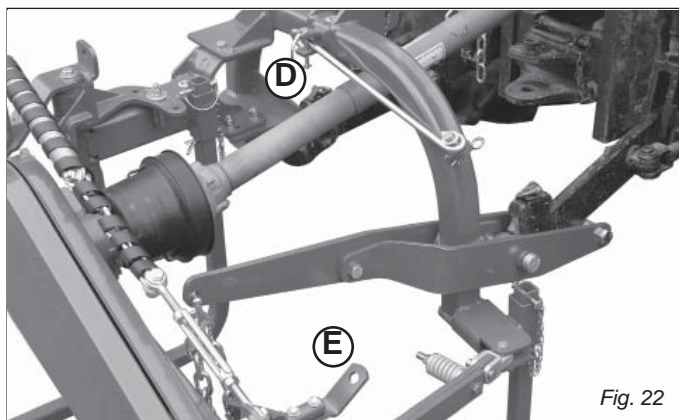

Fig. 22
- Remove safety hook (D, Fig. 22), required only for transportation, and fit it back in the slot positioned above the chassis.